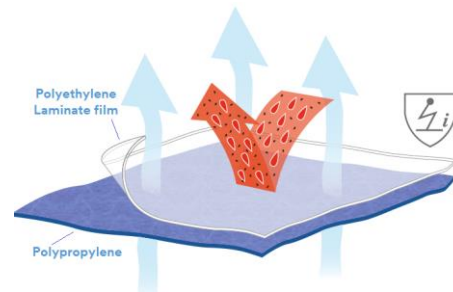

Figure 3. Breathable laminate on polypropylene as used on 3M™ Protective Coverall 4510
1. A substrate made from a polypropylene non-woven to which a layer of polyethylene film is added. This type of fabric is used in the 3M™ Protective Coverall 4510 (Figure 3) and the 3M™ Protective Coverall 4570.